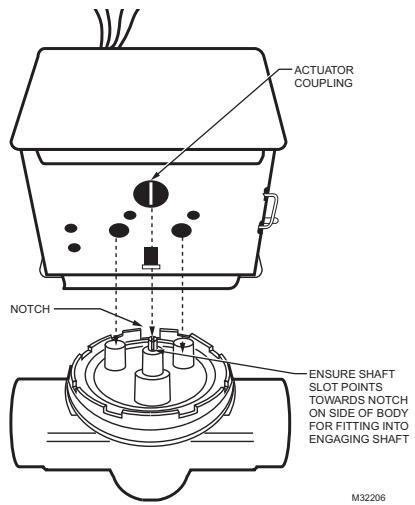

Fig. 2. Installing new actuator.
1. Orient slot in shaft of VU-series valve body toward notch in side of body (i.e. 90° to water flow.) See Fig. 2. This lifts the ball off seat, prevents damage to the ball seal while soldering, and makes actuator attachment easier.
5. Line up motor coupling to slot in shaft of body and fit the head onto the valve body, ensuring that the shaft seats correctly. (See Fig. 2).